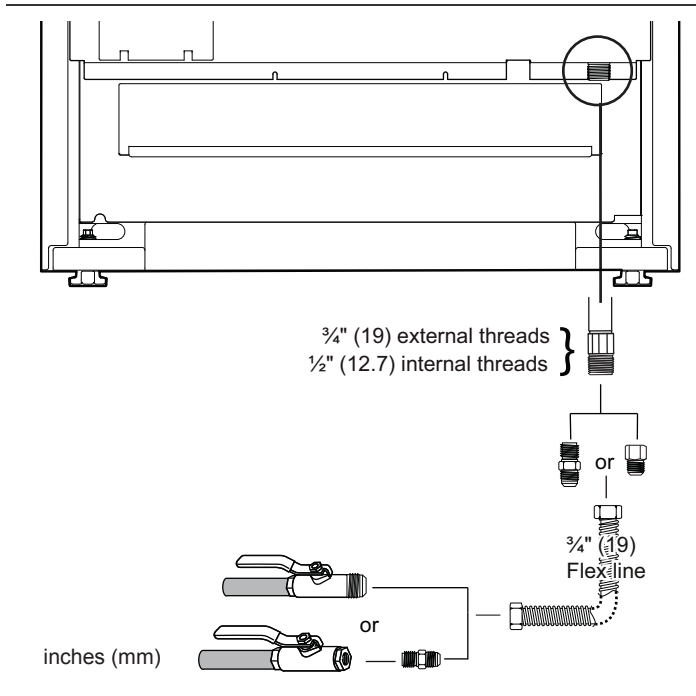

Figure 8: Gas Supply Connection
2. Use a $\frac{3}{4}$ " (19 mm) flex line to connect between the gas supply and the appliance gas inlet. The gas supply line connection is located at the lower right portion (see *Figure 8*). The appliance gas inlet connection is $\frac{1}{2}$ " (12.7 mm) NPT.